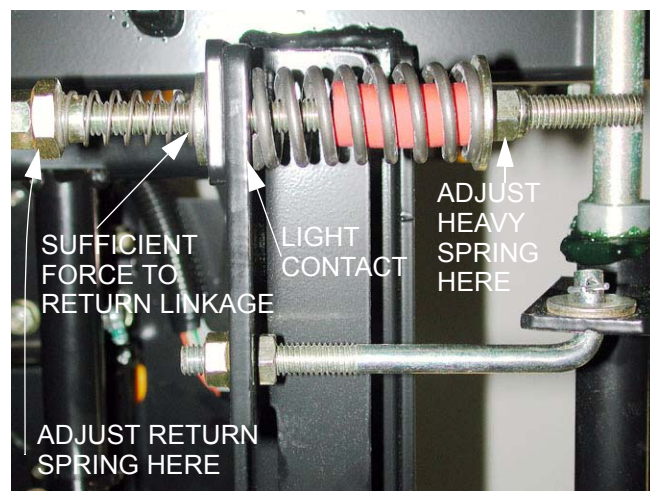

Figure 7.19
- 7.19. Loosen or tighten the nylock nut at the front of the connecting rod to bring the heavy spring lightly into contact with the brake bracket. See Figure 7.19.